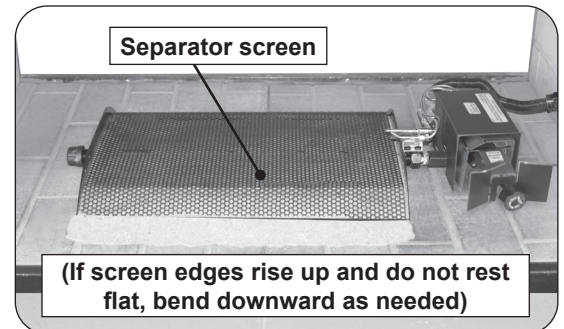
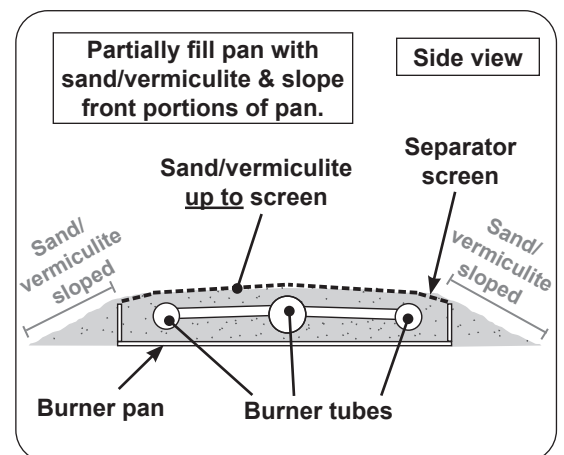

Fig. 19-2 Place screen
Fig. 19-3 Sand/vermiculite & screen detail
- Slope the sand/vermiculite in the front portions of the pan (see Fig. 19-3).
2. Place the separator screen over the sand/vermiculite and pan. The screen edges will rest just over the edges of the burner pan as shown in Fig. 19-2 and Fig. 19-3. If the screen edges rise up from the floor of the pan, bend them downward as needed.
3. Once the screen is in place add or remove sand/vermiculite until it rests at the level right below the screen (see Fig. 19-3). **DO NOT** underfill or overfill.